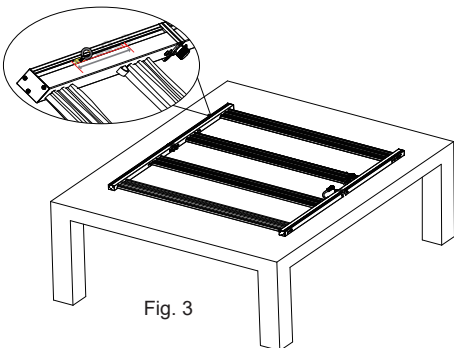

Fig. 3
- Adjust the eyebolt (Part E) to desired position (Fig. 3).